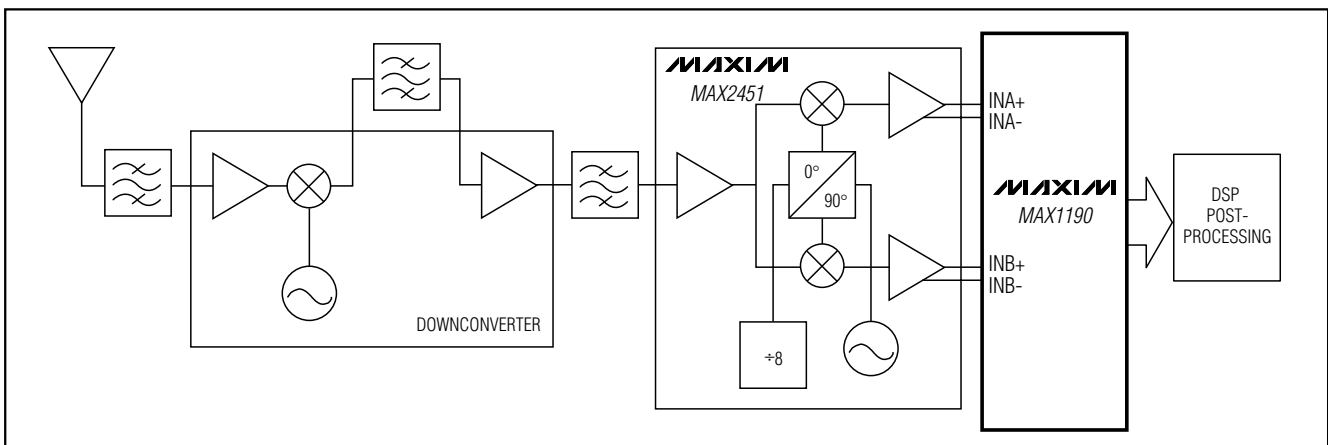

Figure 10. Typical QAM Application Using the MAX1190
A frequently used modulation technique in digital communications applications is quadrature amplitude modulation (QAM). Typically found in spread-spectrum-based systems, a QAM signal represents a carrier frequency modulated in both amplitude and phase. At the transmitter, modulating the baseband signal with quadrature outputs, a local oscillator followed by subsequent upconversion can generate the QAM signal. The result is an in-phase (I) and a quadrature (Q) carrier component, where the Q component is 90° phase shifted with respect to the in-phase component. At the receiver, the QAM signal is divided down into its I and Q components, essentially representing the demodulation process reversed. Figure 10 displays the demodulation process performed in the analog domain, using the dual-matched 3.3V, 10-bit ADC MAX1190 and the MAX2451 quadrature demodulator to recover and digitize the I and Q baseband signals. Before being digitized by the